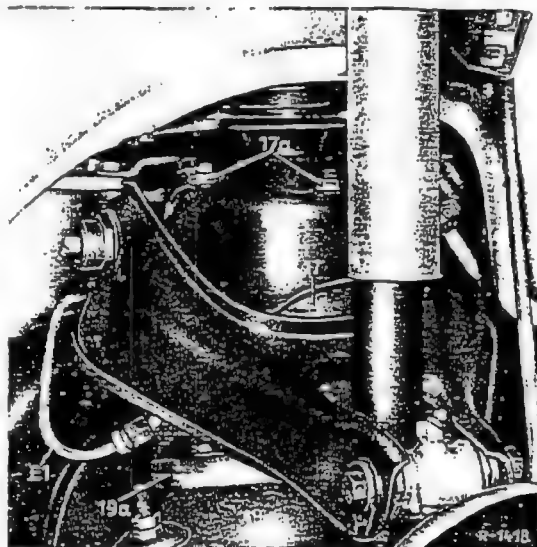

Fig. 32-14/2
4. Detach the line (E1) from the air chamber (Fig. 32-14/2).